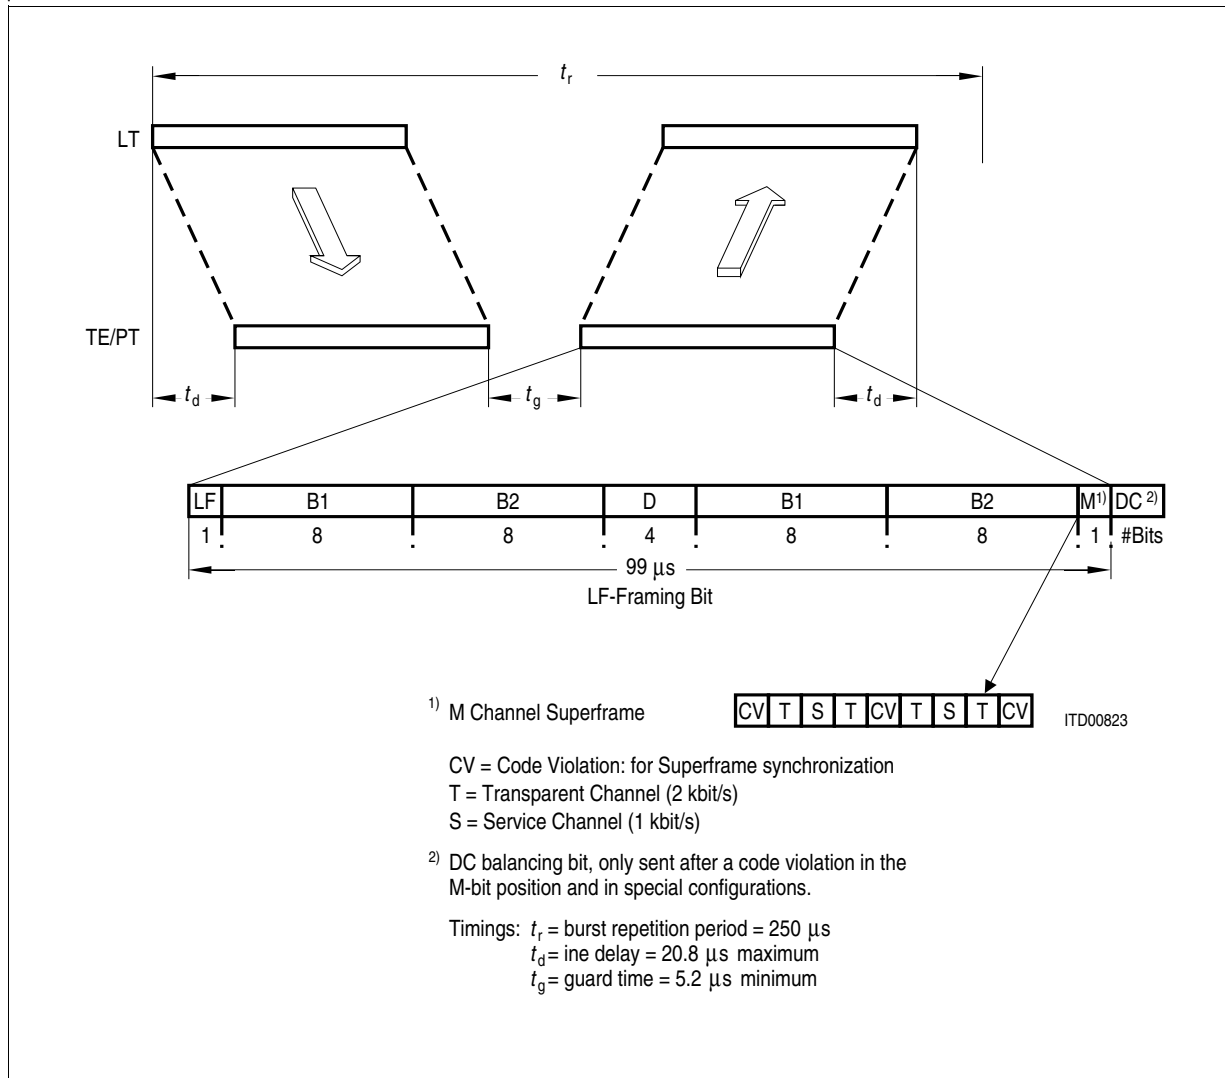

Figure 9  $U_{PN}$  Interface Frame Structure
The frame structure of the data transfer between the exchange (PBX, LT) and the terminal (TE) is depicted in Figure 9.
- A frame transmitted by the exchange (PBX) is received by the terminal (TE) after a given propagation delay  $t_d$ .